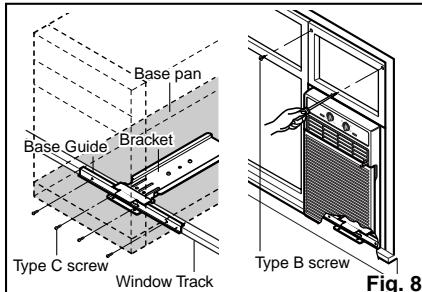

Fig. 8
11. Drill 1/8 inch holes in window track through the existing holes on Base Guide. Screw 4 Type C screws through the holes. (Fig. 8)
13. Drill 1/8 inch hole in window jamb to align with the existing holes in the Curtain Frame. Attach Curtain Frame to window frame with 2 Type B screws. (Fig. 8)